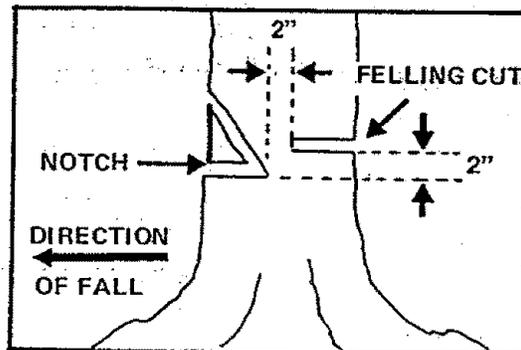

Figure 31
- Make the notch cut. Figure 31.